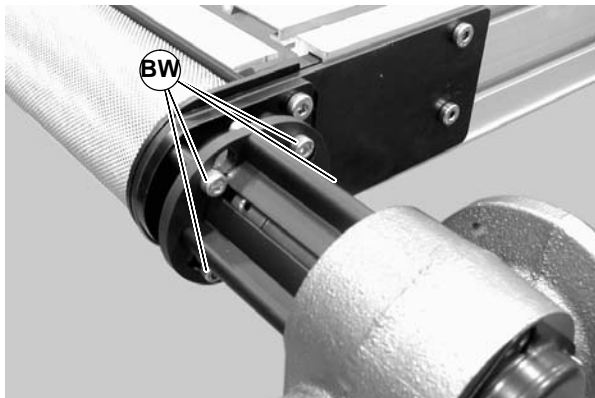

Figure 54
- 2) Loosen the four (4) lock screw (BW of Figure 54).